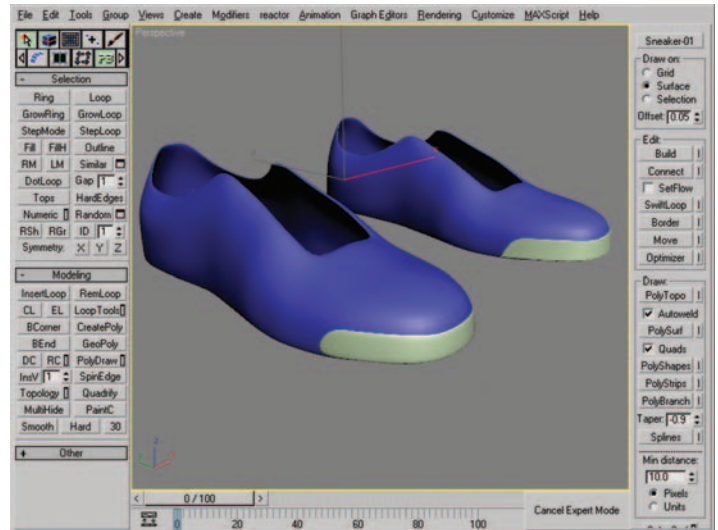

Figure 12.27 Resulting mesh (left) and resulting mesh with additional chamfers added (right).
31. Add a Shell modifier with an Inner Amount of 0.04 and an Outer Amount of 0.03. Above the Shell modifier, add a TurboSmooth modifier with two iterations. Figure 12.27 shows the resulting mesh (left) as well as the resulting mesh with two additional chamfers to create a cleaner/crisper shape (right).